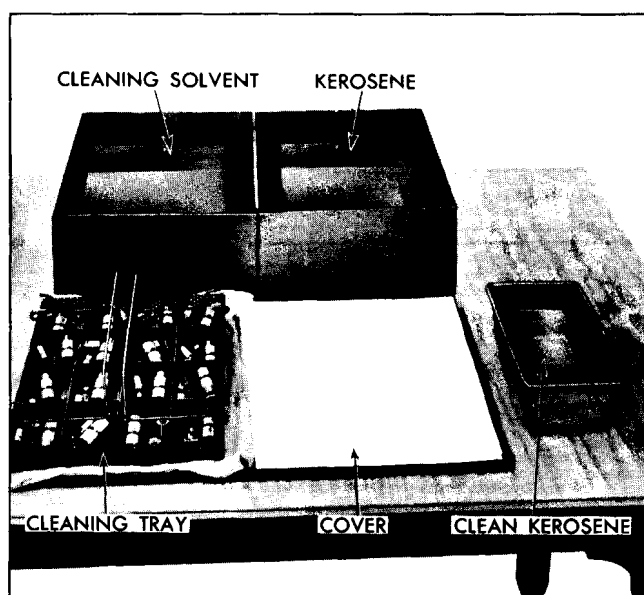

Fig. 6-106 Lifter Wash Tank and Tray
Wash tank and tray J 5821 (Fig. 6-106) is recommended for cleaning valve lifters. This tank should be used only for valve lifters and should be kept covered when not in use. All servicing should be done in an area removed from grinders or other sources of dust and foreign material.
Wash tank J 5821 (Fig. 6-106) is recommended for cleaning valve lifter parts. This tank consists of two chambers,
5. Wipe out tank cover and place tray of parts on cover in front of tank (Fig. 6-106). A shop towel under tray and clean paper on remainder of cover will ensure cleanliness. (Absolute cleanliness can be assured if each lifter is inspected and assembled after cleaning before proceeding to the next lifter).